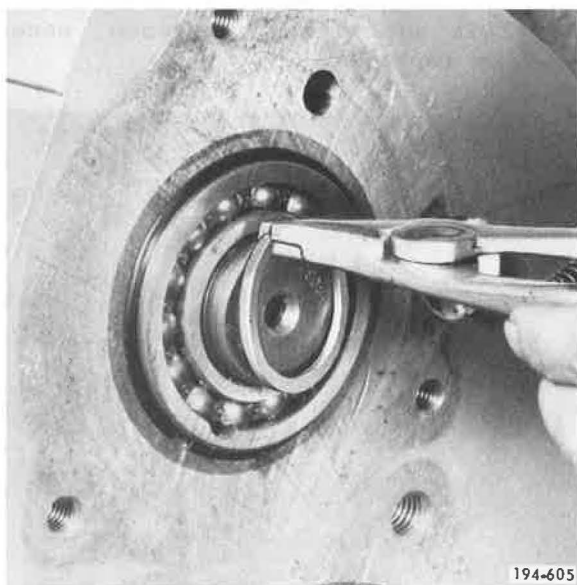

Figure 328. Installing Snap Ring
14. Place rear countershafts in position, and install rear bearing retaining snap rings, using snap ring pliers J-25445, or equivalent. See Figure 328.